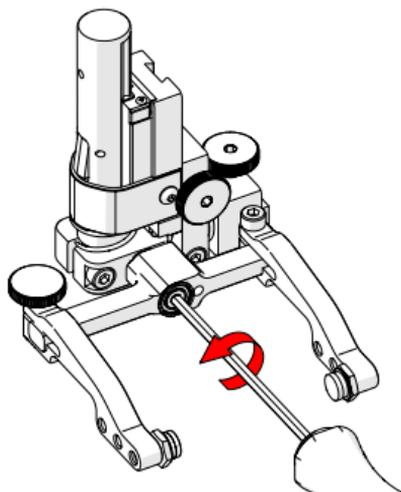

Fig. 80 - Unscrew yoke pivot screw
2. Using the supplied 3 mm hex driver (Fig. 24), unscrew the yoke pivot screw and remove the yoke (Fig. 80).